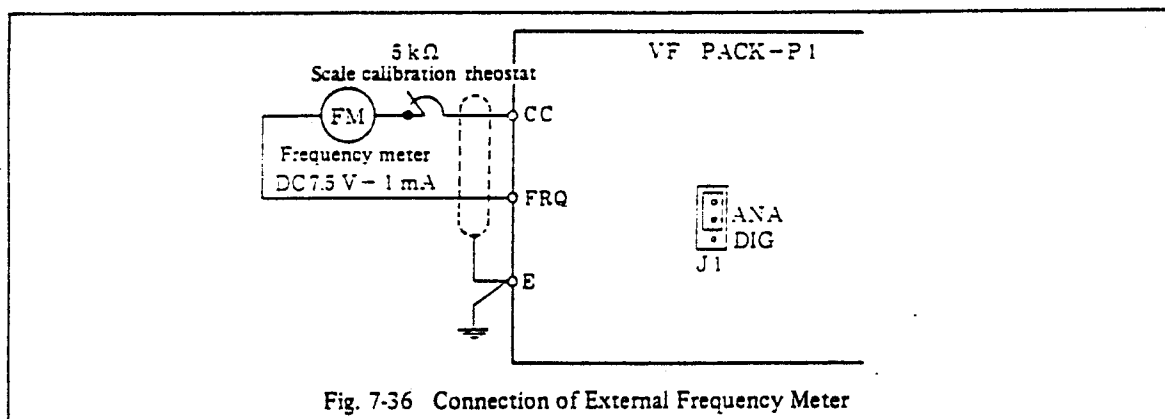

Fig. 7-36 Connection of External Frequency Meter
- (1) Inverter outputs analog frequency output which is simultaneously indicated on an analog frequency meter apart from the digital frequency meter. This means that analog frequency meter can be externally installed in parallel to digital frequency meter. (Analog frequency meter is featured by a movable pointer).
- (2) In case frequency meter is equipped externally, connect frequency meter and variable rheostat for meter calibration in series. Then, they should be connected with terminals CC-FRQ. (Ref. Fig. 7-36)
- (3) Set jumper pin (J1) equipped on the PWB (printed wired board) to "ANA" (This stands for "Analog output") side. At shipment, it is set to the ANA side.
- (4) Frequency meter should be 7.5 VDC, -1 mA at full scale.
- (5) The scaling of indication should be adjusted through variable rheostat for scale calibration. The resistance should be specified as 5 kΩ ~ 0.3 W or more.